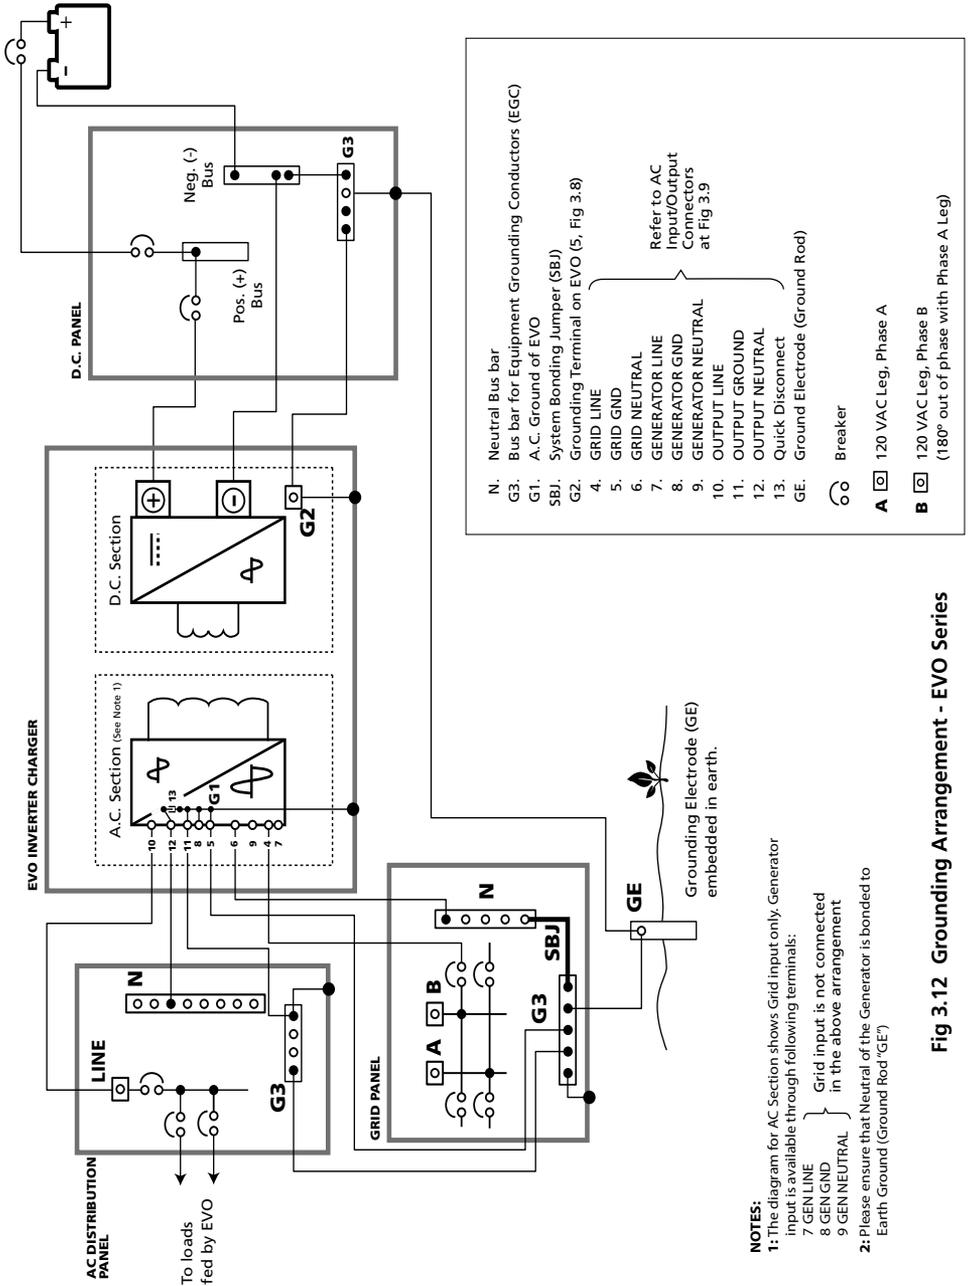

Fig 3.12 Grounding Arrangement - EVO Series
Schematic at Fig. 3.12 illustrates the grounding arrangement of EVO Series. Internally, EVO consists of a DC Section and an AC Section that are isolated through a transformer. Both these sections are required to be grounded appropriately.
3.13 DC SIDE GROUNDING (SEE FIG. 3.12)
A DC Panel, as shown in Fig. 3.12, is normally provided to connect the batteries and distribute DC power to the inverter and to the other DC loads.
3.14 AC SIDE GROUNDING (PLEASE SEE FIG 3.12)
- The AC Input Grounds {GEN GND (8), GRID GND (5)} and AC Output Ground {OUTPUT GND (11)}, are internally bonded to the chassis of the inverter (G1)
- The Equipment Grounding Conductors (part of the Grid/Generator input wiring) from Bus Bars (G3) for the Equipment Grounding Conductors in the Grid and Generator Input Panels are connected to the AC input Ground terminals in {GRID GND (5), GEN GND (8)}.
- The AC output Ground terminal of the EVO{OUTPUT GND (11)} is connected to the Equipment Grounding Conductor of the AC output wire which then connects to the Bus Bar (G3) for the Equipment Grounding Conductors of the AC Distribution Panel.
- The Bus Bar (G3) for Equipment Grounding Conductors of the AC Distribution Panel is connected to the Bus Bar for the Equipment Grounding Conductors (G3) of the Grid/Generator Input Panel, which in turn is connected to the Ground Rod or the Grounding Electrode (GE).